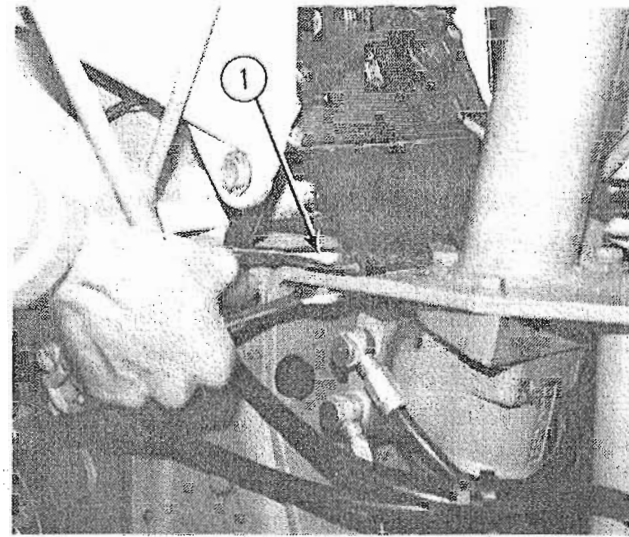

FIG. 6
(7) The dash panel by removing (2) 10mm. bolts and nuts and loosening the hexagon mounting stud for the hydraulic lift lever. (1, Fig. 6)